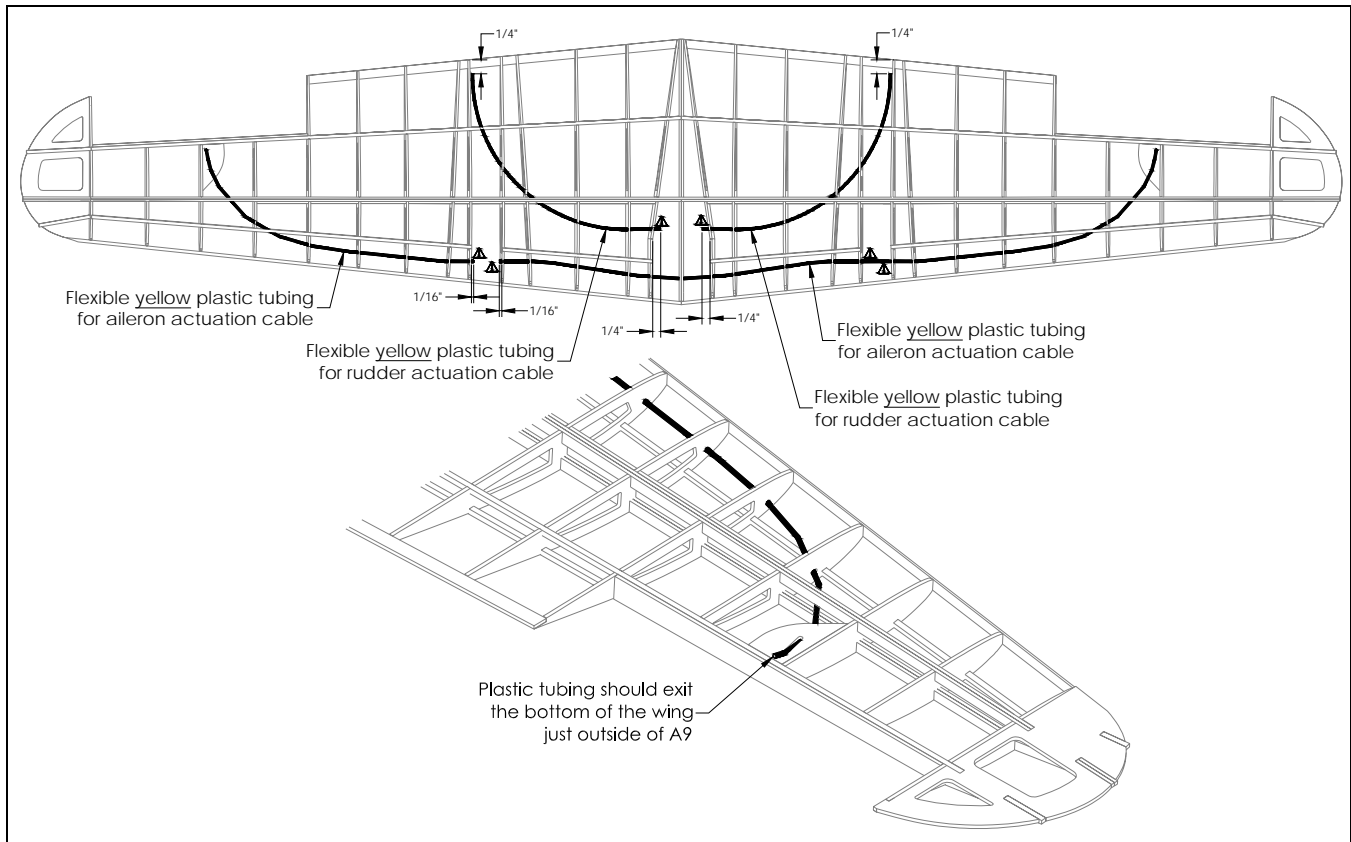

Figure 20
- ❑ Install the flexible plastic tubing in the wing as shown in Figure 20. The tubes for the rudder will hang loose towards the trailing edge of the wing for the time being.